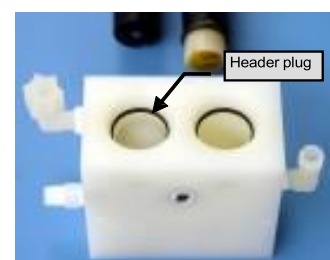

Figure 16
- h. Locate one of the coupling fittings and place it on a hard surface with the shell tube bores facing up. Install o-rings (item 6) in the grooves (See Figure 16).